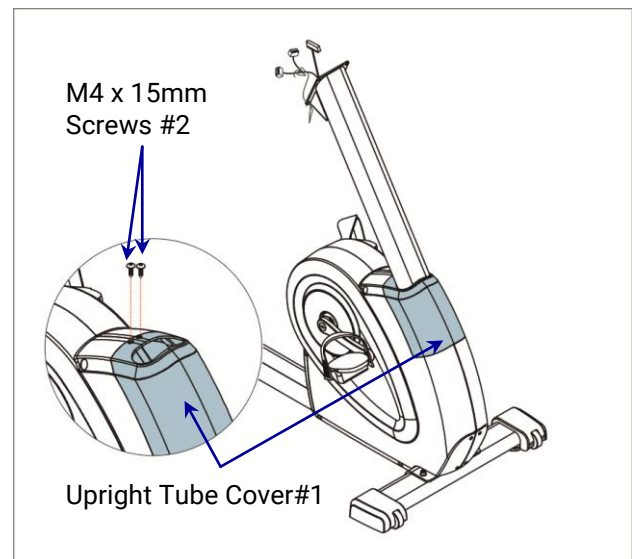

Fig 2.5-6
Reinstall the **Upright Tube Cover#1** by securing the **(2) M4 x 15mm Screws #2** (Pre-locked screws on STEP 3) with the provided 5mm Allen Wrench. (Fig 2.5-6)